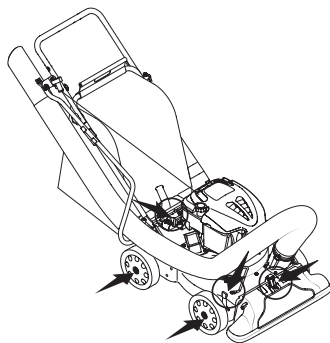

Figure 14
4. Lubricate the nozzle/hose vac lever on top of the nozzle once a season with light oil. See Figure 14.